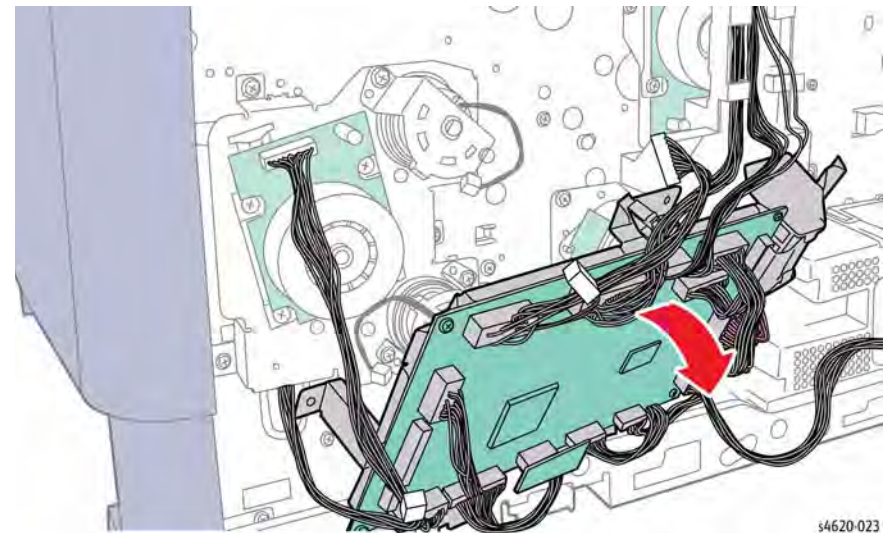

Figure 2 Loosen the MCU Board and bracket to access the clutch
9. Lift the MCU Board bracket to release the tabs and move the board out and right to access the clutch, Figure 2.